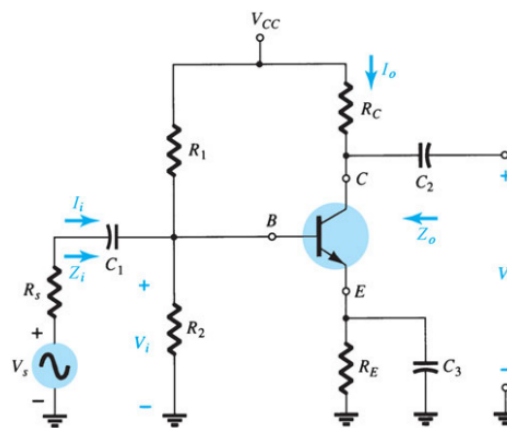
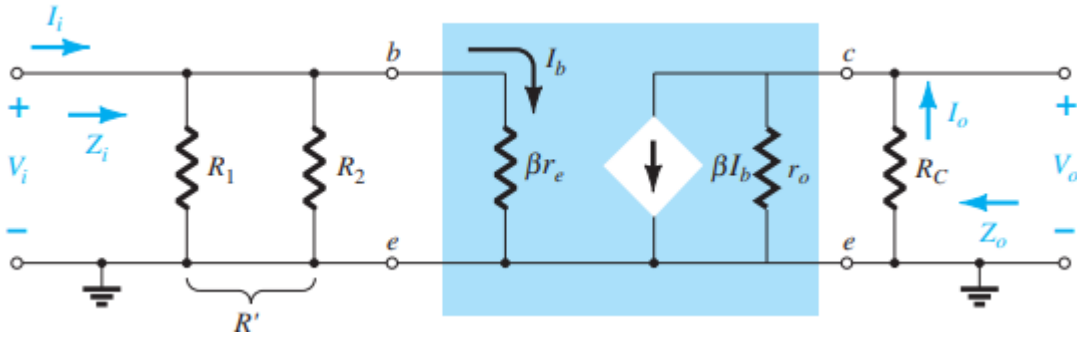

Figure 2: Common-emitter BJT amplifier circuit
Figure 5: AC equivalent of CE amplifier network shown in Figure 2
Common emitter amplifier configuration is widely used. It provides large voltage gain (typically ten to hundreds) and moderate input and output impedance. CE amplifier circuit is shown in Figure 2.
Using the equivalent model of BJT, the AC equivalent of the network shown in Figure 2 is drawn in Figure 5.
- Use bypass capacitor of 100 μ F at emitter and measure the output voltage through another coupling capacitor of 15 μ F as shown in Figure 2. This is the unloaded output of amplifier as there isn't any load resistor connected at the output terminal of amplifier. Write down your observations in Table 3.